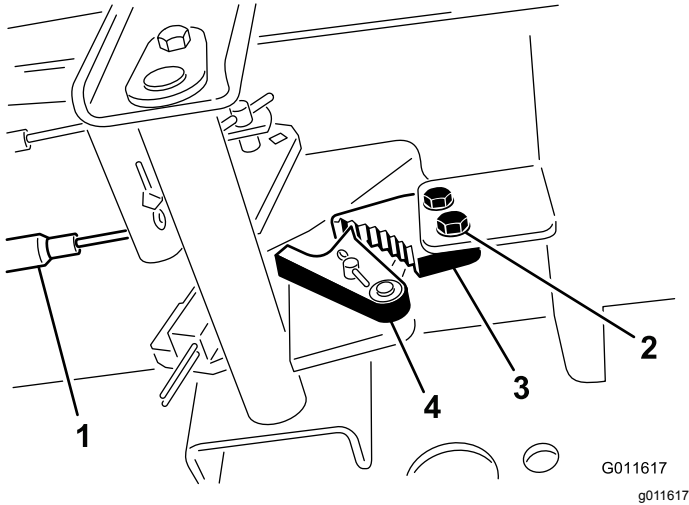

Figure 62
1. Loosen the 2 screws securing the parking brake pawl to the frame (Figure 62).
2. Press the parking brake pedal forward until the brake detent completely engages on the brake pawl (Figure 62).